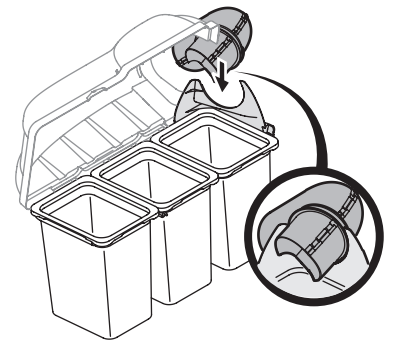

Figure 23
7. With the bagger cover open, insert the upper chute tube into the boot then pivot the upper chute tube into position so that the chute rests in the upper chute support. See Figure 23.